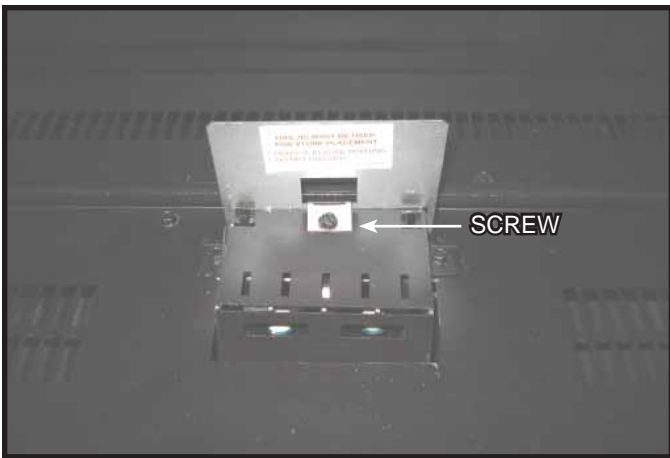

Figure 14.5. Remove Screw
5. Remove the rock media placement jig by removing the screw as noted in Figure 14.5.